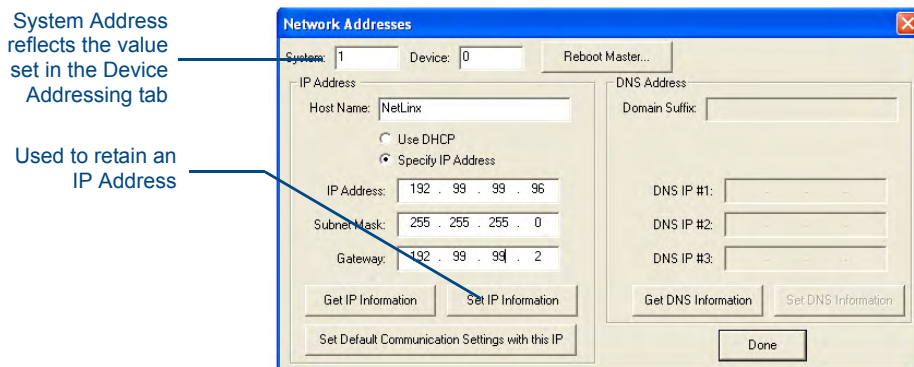

FIG. 20 Network Addresses dialog (for a pre-obtained Static IP Address)
1. Select **Diagnostics > Network Addresses** from the Main menu to access the Network Addresses dialog (FIG. 20).